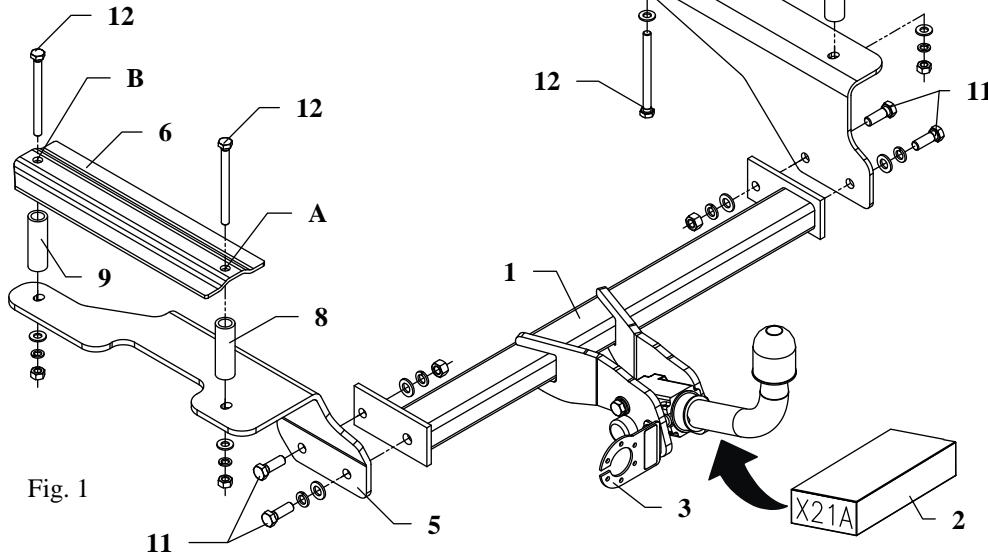
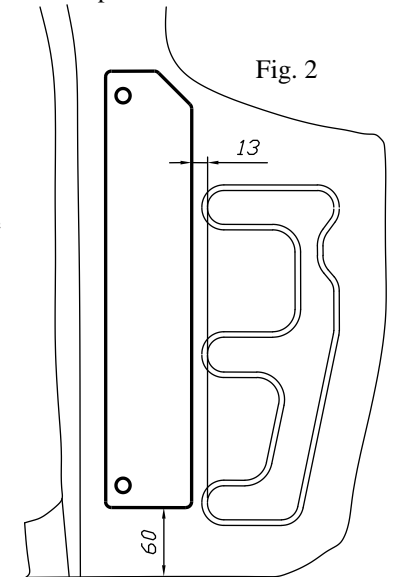

Fig. 1
Fig. 2
6. Place fish-plate (pos. 6) on the hole A.
7. Drill hole  $\varnothing 11\text{mm}$  in point B through fish-plate (pos. 6) in the floor.
8. Place fish-plate (pos. 7) on the right side, as one showed on the fig. 2 and drill holes  $\varnothing 11\text{mm}$  in points C and D. Make sure that the holes to be drilled match the holes on the underside of the chassis.
9. Remove fish-plates (pos. 6 and 7) and enlarge the holes from inside the boot only to  $\varnothing 30\text{mm}$ .
11. Place fish-plates (pos. 6 and 7) with three bolts M10x120mm (pos. 12) in combination with the distance sleeves (pos. 8, 9, 10) – see fig. 1.
12. Place left bracket (pos. 5) in points A and B and fix loosely.
13. Place right bracket (pos. 4) in points C and D with the fourth bolt M10x120mm (pos. 12) and fix loosely.
14. Fix the main bar of the towing hitch (pos. 1) using bolts M12x35mm (pos. 11).
15. Fix body of the automat and place tow-ball according to supplied instruction. Note! Remember to place socket plate (pos. 3) as shown on the drawing 1.